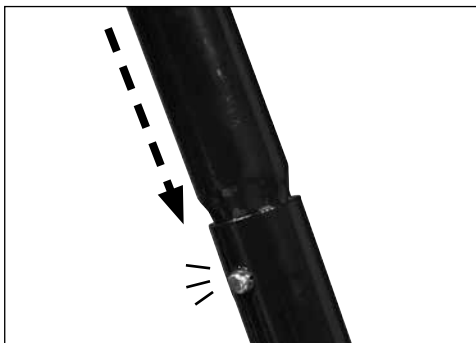

Fig. 1
- a. Attach the upper part to the lower part of the handle shaft by aligning the top handle pin with the hole in the lower section (fig. 1)